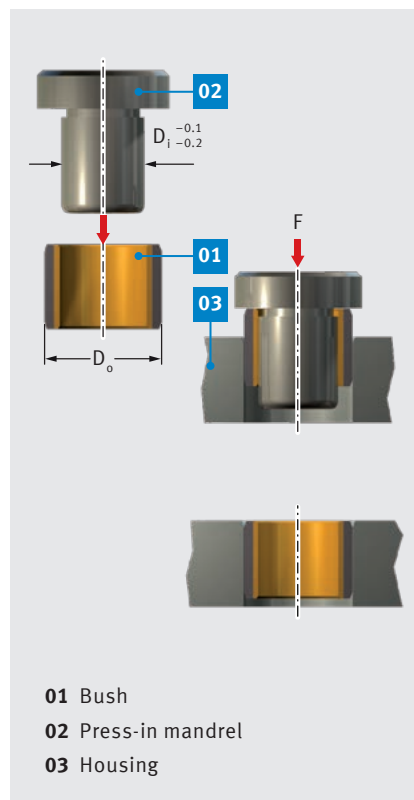

Fig. 52: Flush press-fitting $D_o \leq 55$ mm
- Flush press-fitting with mandrel, without auxiliary ring, as per Fig. 52